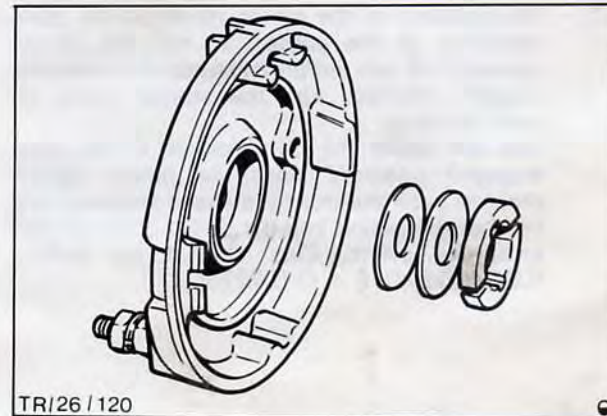

Fig. 76. Commutator end cover
22. Examine brake and thrust washers in commutator end cover. If they are in order re-assemble them as shown, Fig. 76.